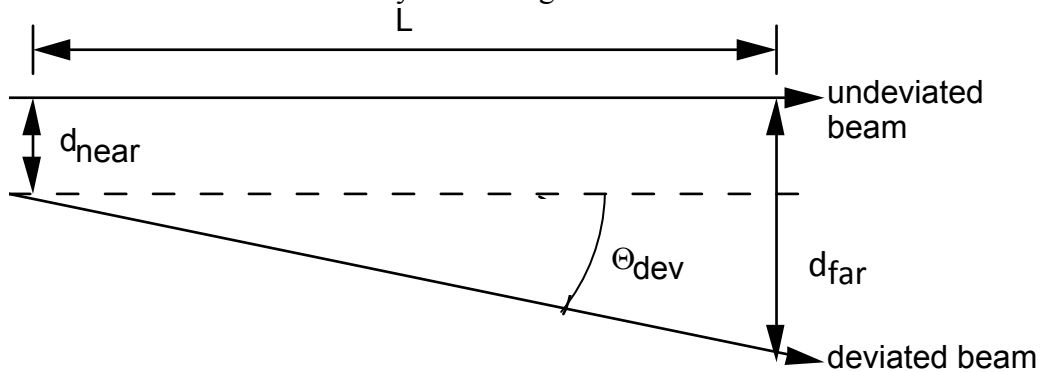

Fig. 5: Deviation of beam going through slab.
8. In practice, the laser beam may emerge not only displaced laterally, but also making some angle Θ_{dev} with respect to the incident path. Referring to figure 5 below, use the equation (valid for small angles measured in radians, for which $\tan\theta \approx \sin\theta \approx \theta$)